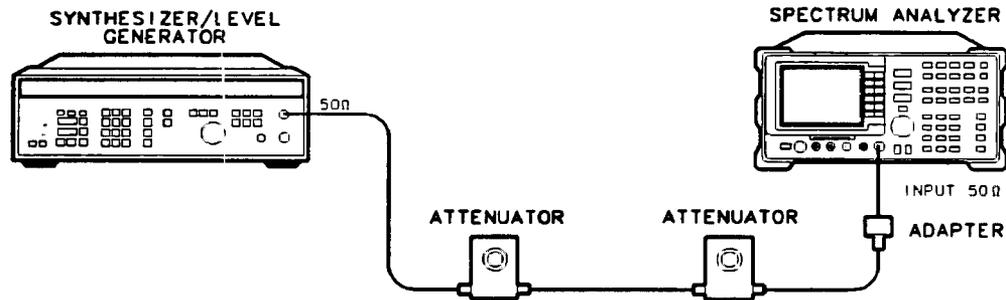

Figure 4-10. Reference Level Accuracy Test Setup
2. Connect the equipment as shown in Figure 4-10. Set the HP 355D to 10 dB attenuation and the 355C to 0 dB attenuation.